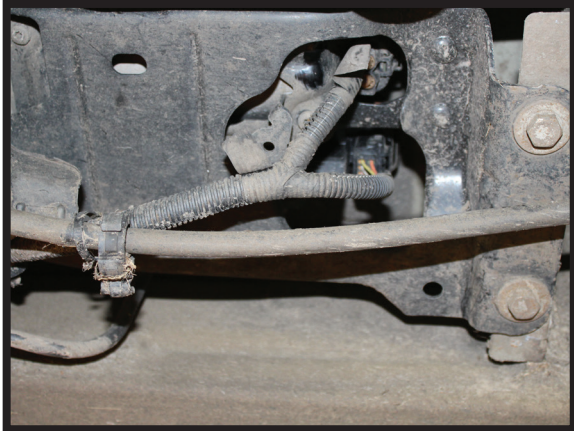

FIGURE 2
5. REMOVE THE 3 BOLTS HOLDING THE COMPRESSOR BRACKET TO THE CHASSIS. (FIGURES 2, 3)